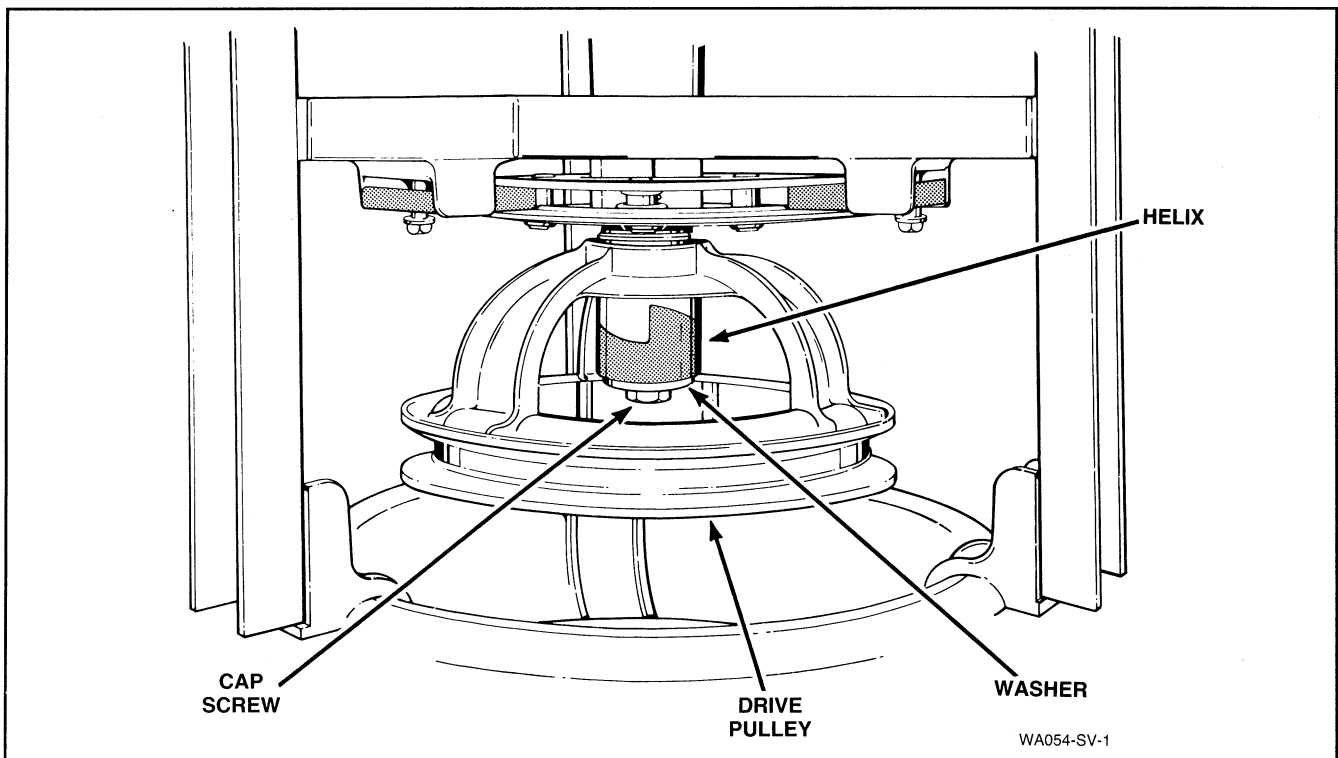

Figure 35
- k. Remove screw, washer and helix holding drive pulley to the input shaft of the transmission assembly, *Figure 35.*
- o. Remove screw, washer and helix holding drive pulley to transmission shaft, *Figure 35*.
- p. Remove drive pulley from transmission shaft, *Figure 35*.
- q. Remove large flat washer from transmission shaft, *Figure 35*.